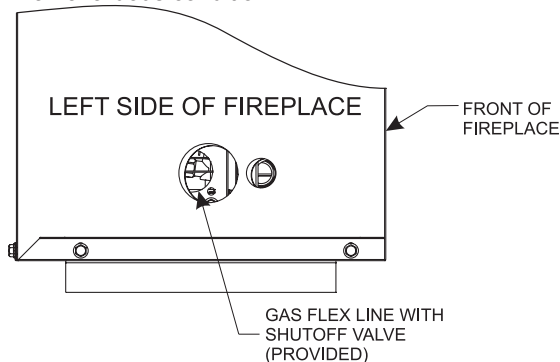
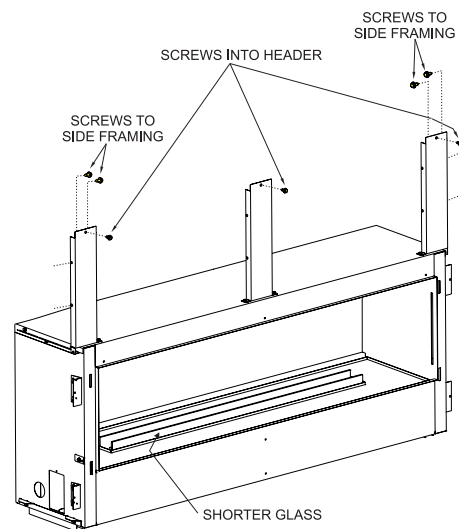

Figure 24
Figure 27
4. Secure three middle mounting brackets with drywall screws to the framed opening above the fireplace as shown in **Figures 27 to 34**. The brackets should be installed to support the ends of the non-combustible board. Note: The drywall screws are located in the instruction envelope packet. Secure the left and right framing standoffs to the side framing as shown in figure 24. Secure fireplace on left and right through side framing brackets.
12. Retrieve shorter glass and install in front of burner. **See Figure 27**.